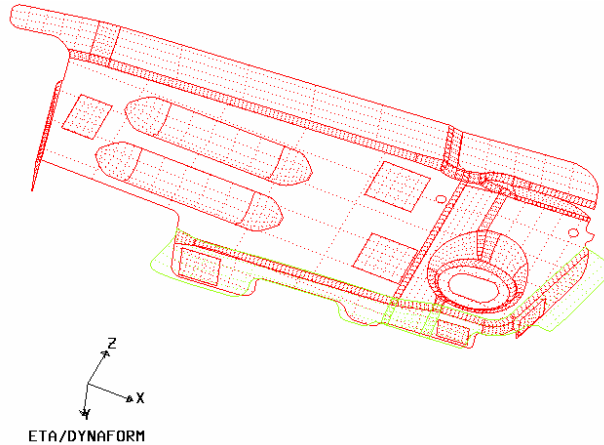

Figure 6.1.7 Unfolded Flange
- **OK** accepts the entered bent angle. The unfolded surfaces are shown in Figure 6.1.7 in yellow.